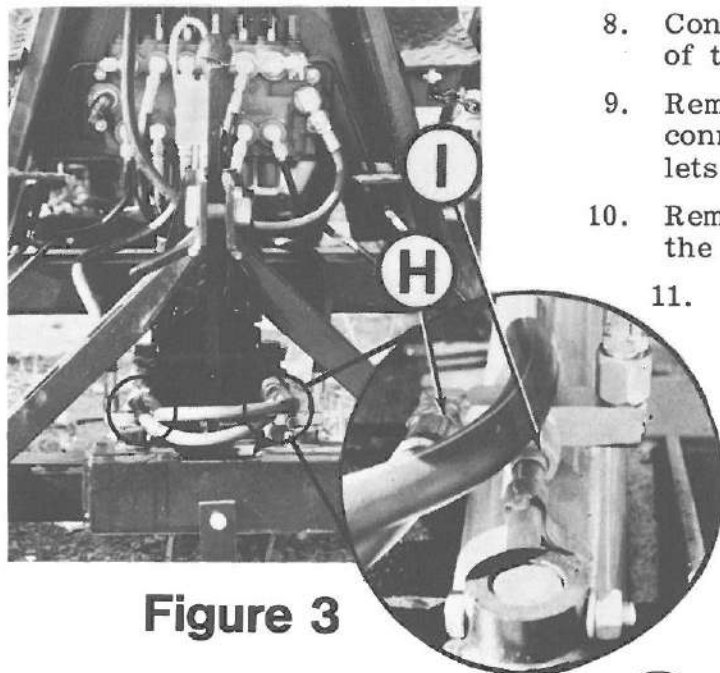

Figure 3
9. Remove the two swing ram hoses that cross-connect the swing rams from the inner outlets of the manifold fittings (H of Fig. 3).
11. Remove the manifold fittings from the swing rams (I of Figure 3). Remove the restrictors from the middle outlets of the manifold fittings.